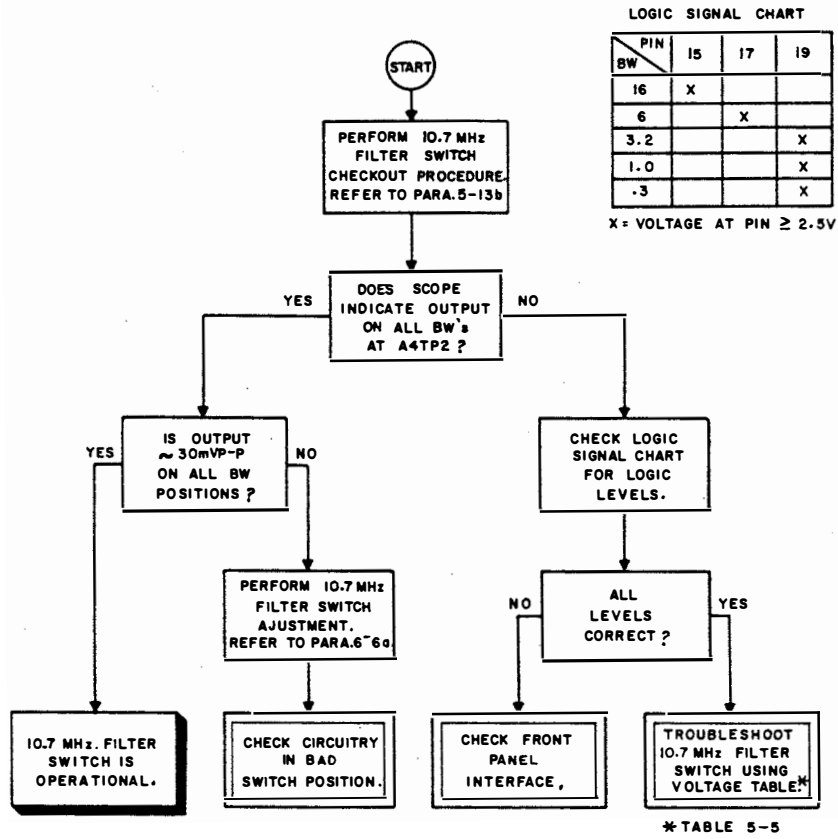

Figure 5-11. 10.7 MHz Filter Switch Fault Logic Diagram
(1) Figure 5-11, 10.7 MHz Filter Switch Fault Logic Diagram.
(2) Table 5-5, 10.7 MHz Filter Switch Voltage Table.
(3) FO-4, 10.7 MHz Filter Switch Schematic Diagram.
(4) 10.7 MHz Filter Switch circuit description, paragraph 3-28.